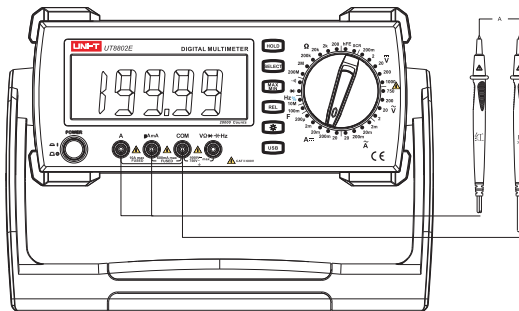

Figure 3
3.Measurement of AC /DC current (see Figure 3)